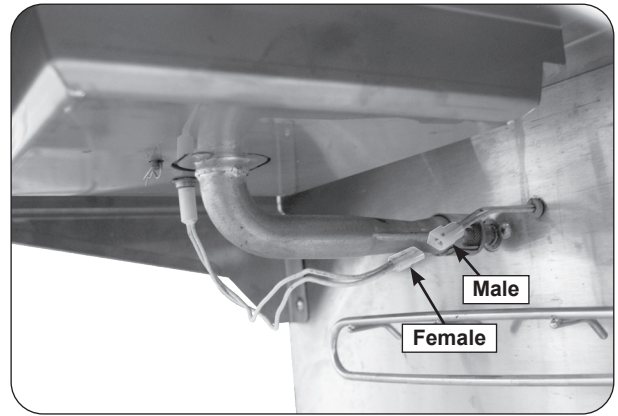

Fig. 26-1 Igniter wire connection
4. Connect the female connector on the end of the hot surface igniter wire to the male connector coming from inside the grill. See Fig. 26-1.